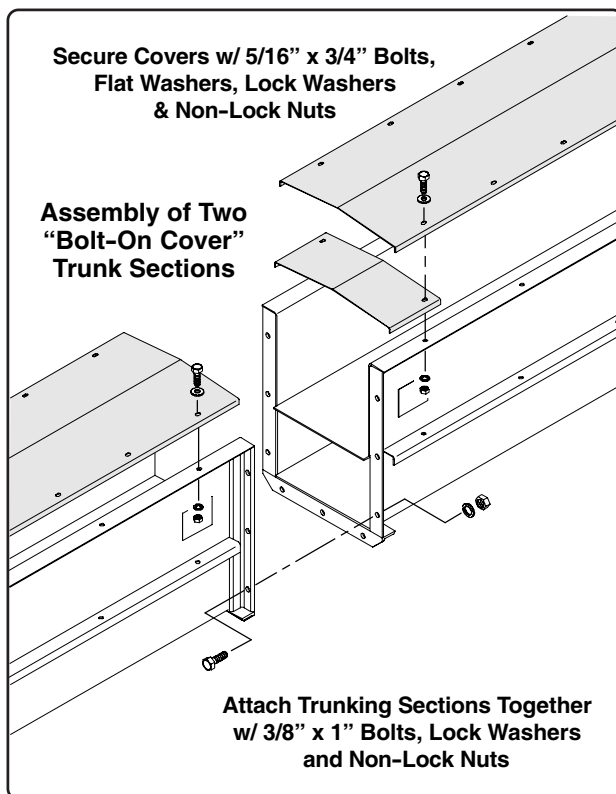

Fig. 8
- For units with bolt-on covers, attach the covers to the trunk sections using 5/16" x 3/4" bolts, lock washers and non-lock nuts. A short splice plate will be installed at each of the trunk section joints as shown in Fig. 8 below.